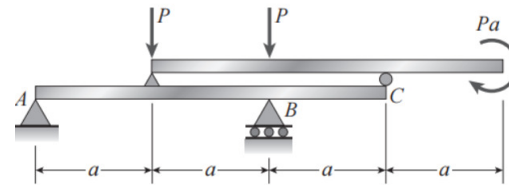

Figure 2
- 4 A beam ABC is simply supported at A and B and has an overhang BC (see Figure 2). The beam is loaded by two forces  $P$  and a clockwise couple of moment  $Pa$  that act through the arrangement shown. Draw the shear-force and bending-moment diagrams for beam ABC. [14M]